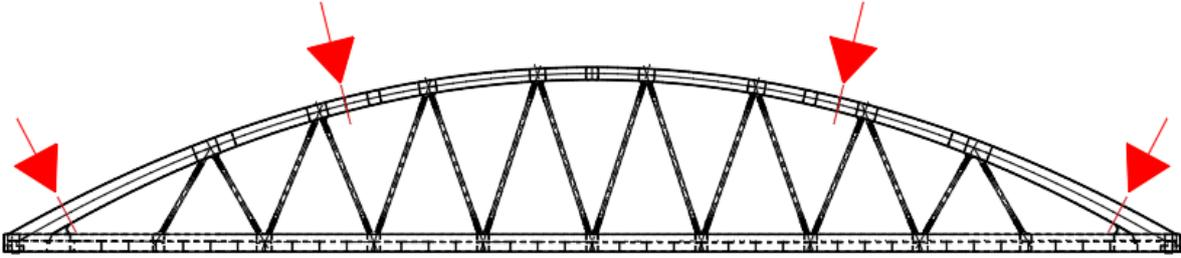

Figure 1 - MCA - Best Variant (Red Arrows point to separation line of different sections)
**Arch** – The MCA results show an interesting consistency in the grading. The best option for the arch would be the baseline variant option 1 (see Figure 1), which consists of transporting each arch in 3 sections. The main advantage is that the sections are light and easy to handle, which also results in a smaller crane required. It does require a longer duration with a crane on-site, but this is compensated by a lower cost of a smaller crane. In addition, this option takes advantage of the support towers already required to place the crossbeams in this configuration.